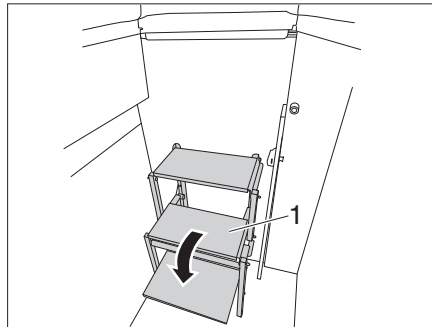

Fig. 57 Extending the step ladder
- Fold out the step ladder (Fig. 57,1).
- Fold in the step ladder (Fig. 57,1).